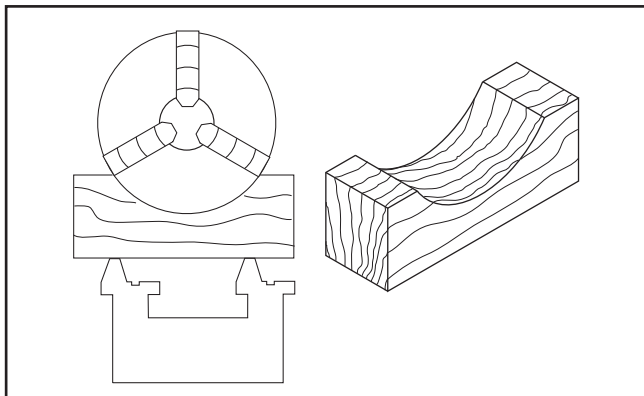

Figure 14. Simple chuck cradle made from scrap lumber.
2. Lay a chuck cradle (see **Figure 14**) or a piece of plywood over the bedways below the spindle to reduce the risk of injury and to protect the precision ground surfaces of the bedways.